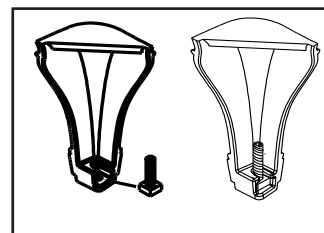
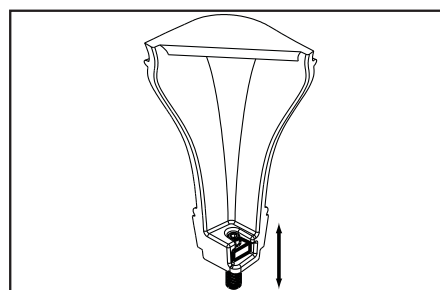

Figure 20.6
Figure 20.7 - Bolt fully extended
2. Slide assembled nuts and bolts into slots on legs with the nuts on the bottom. **Figure 20.6.** Use a 5/32 in. (3.96mm) Allen wrench to adjust legs up and down to desired level. **Figure 20.7.**